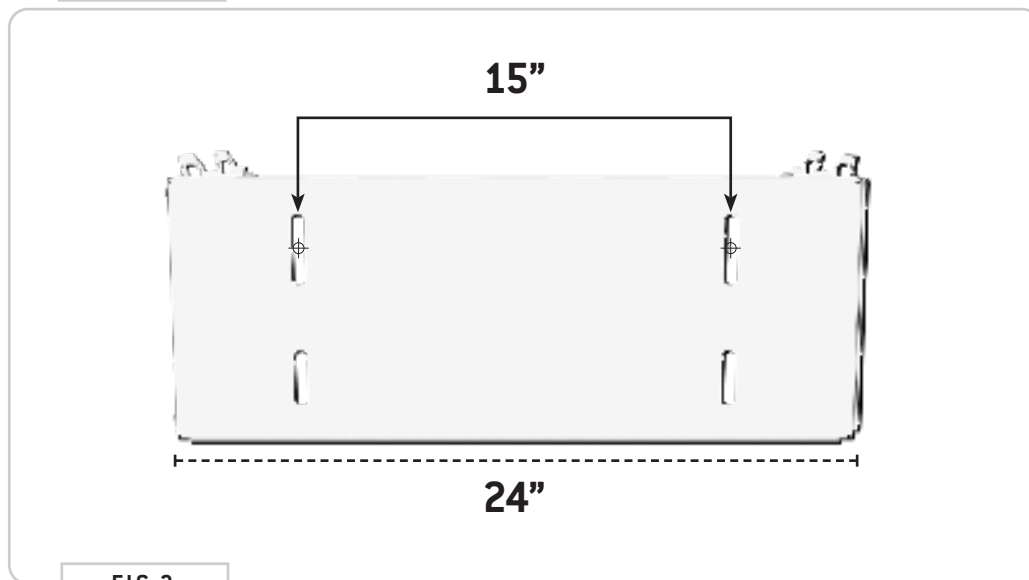

FIG 2
1.1 Determine Mounting Height: Dry fit the cage to your mounting surface and determine the desired height of install. If you'd rather measure, see **FIG 2** for distances between the mounting points.